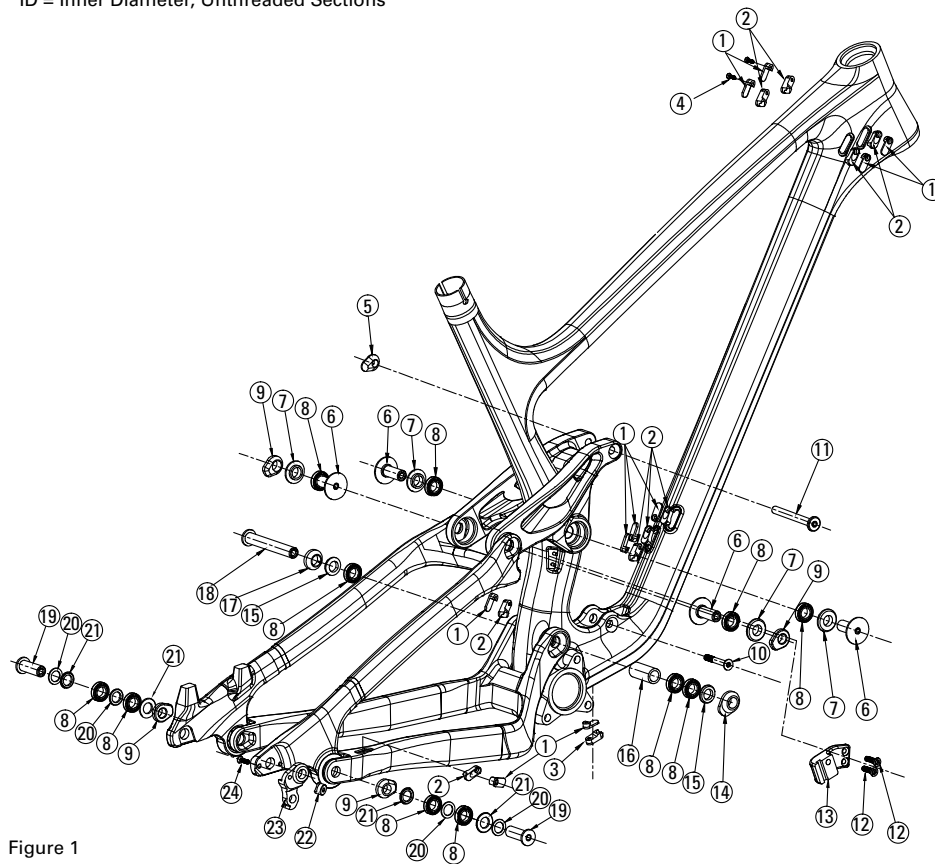

Figure 1
**NOTE 1:** Replacement bearings are NOT included in this kit. Replacement bearings must be purchased separately. For information regarding bearing size refer to Figure 1 on the following pages.
**NOTE 2:** A replacement derailleur hanger and replacement housing guides are NOT included in this kit. The items are available separately. See Figure 1 for more details.
See Tools column in the table of Figure 1.
- Review Figure 1 and the accompanying table. Details regarding the tools and consumables (grease, thread lock) required to properly service the pivots of the Heller 4-Bar frame can be found in these exploded views and the accompanying tables. Do not attempt to service the frame pivots if you lack any of these tools or supplies.